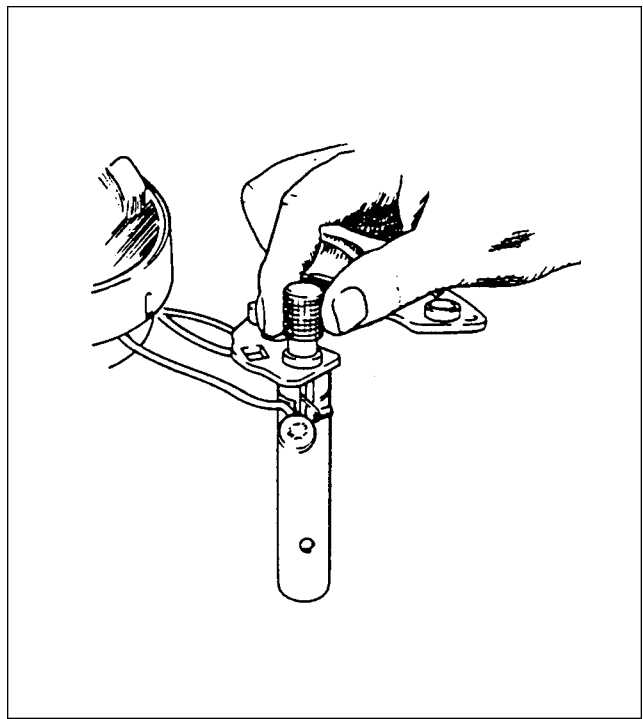

Figure 24-30. Removal of Rectifier
4. Remove nuts, lockwashers, flat washers, and insulators from output and auxiliary terminal studs. Note correct assembly of insulator washers and bushings. Using special tools shown in figure 24-30, support end head and press out three negative rectifiers. End head can now be separated from stator assembly.